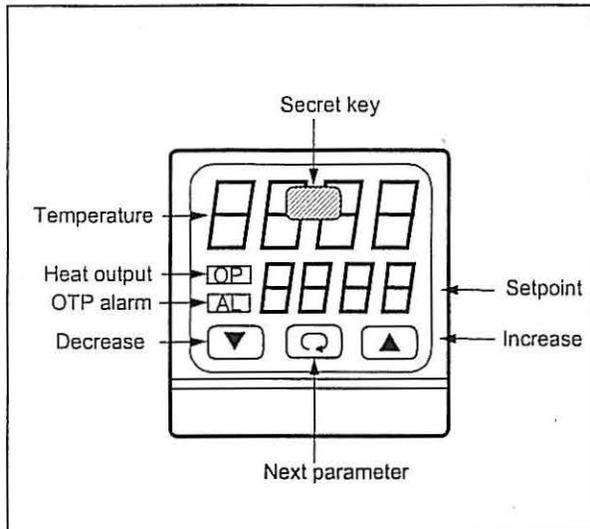

Figure 4. 91p Control Panel
Refer to the *Model 91p Installation and Operation Manual* for complete instructions. Figure 4 shows the control panel.
- To return to the measured value display from the protected list, press the “secret key” (shown in Figure 4).
2. Press the secret key (refer to Figure 4 on page 7) to access the program parameters.